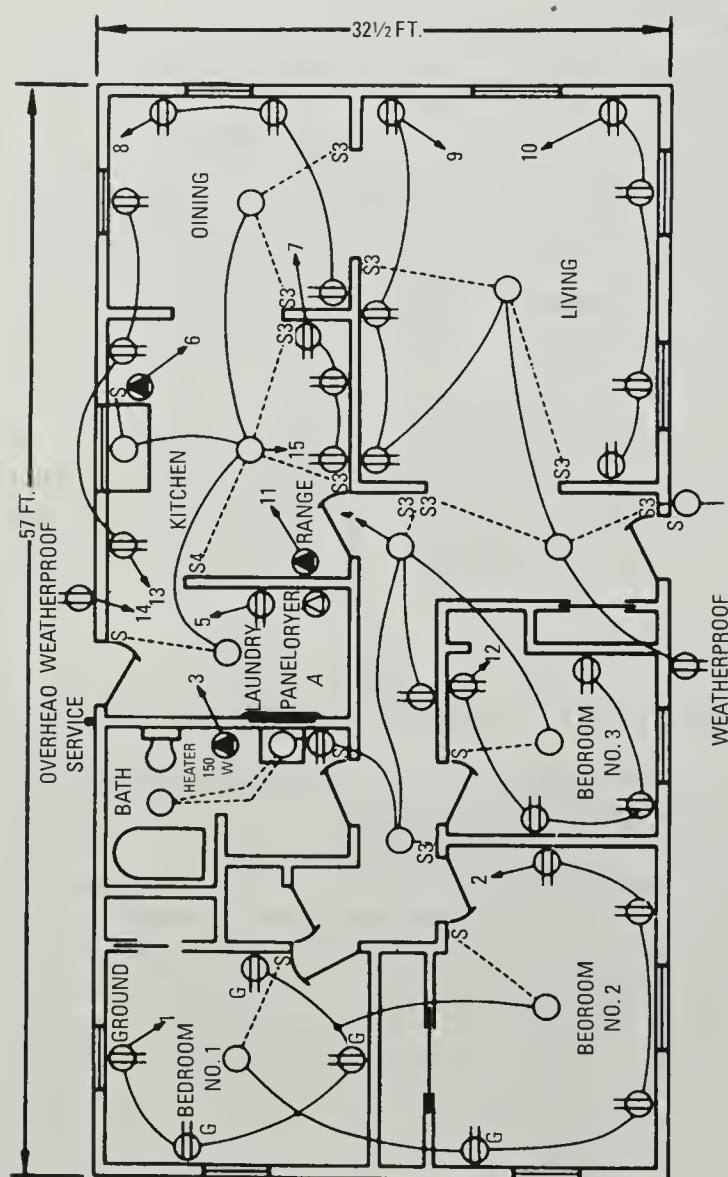

Figure 8-6 Circuiting of a house.
Take a long look at the minimum of two circuits for small appliances and consider adding more than the two circuits, even though two looks like enough. In this line of thinking, refer to Figure 8-6; you will observe that wiring circuits Nos. 7 and 13 have been run into the kitchen, with No. 13 having one duplex receptacle in the dining room, but there is also circuit No. 8 in the dining room.
In Figure 8-6, you will notice two weatherproof receptacles (WP), one by the front door and one by the rear door of the home. These outlets are required to have *ground-fault circuit interrupters* (GFCIs) on the circuits because they are outdoor receptacles. They could both be put on the same circuit. GFCIs are also required for bathroom receptacles, in garages, and for countertop receptacles within six feet of the kitchen sink (see *Section 210.8*).
Go back and take a look at Figure 8-6. The receptacles in bedroom No. 1 were put on a circuit with the light in bedroom No. 2 and, by the same token, the receptacles in bedroom No. 2 were put on the same circuit with the light in bedroom No. 1. This would leave either the light or the receptacles in either bedroom operable in case of trouble on either circuit No. 1 or No. 2.